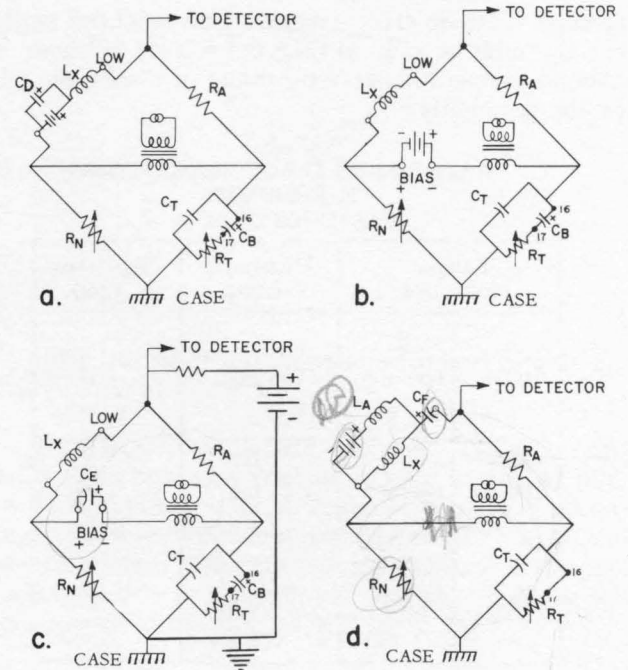

Figure 16. Methods of Applying DC to Inductors. (Blocking Capacitor  $C_b$  is not Supplied with the Bridge)
7.2 APPLICATION OF DIRECT CURRENT TO INDUCTORS. Direct current may be supplied to inductors during measurement by any of several different methods so that incremental inductance measurements may be made. The various methods are described below along with suggestions for their use. A blocking capacitor ( $C_b$  in Figure 16) is needed only for the  $L_S$  bridge shown. This capacitor (not supplied with the bridge) should be connected by the user between terminals 16 and 17, on a bracket behind the BIAS terminals (see Figure 21). The errors caused by this capacitor are: